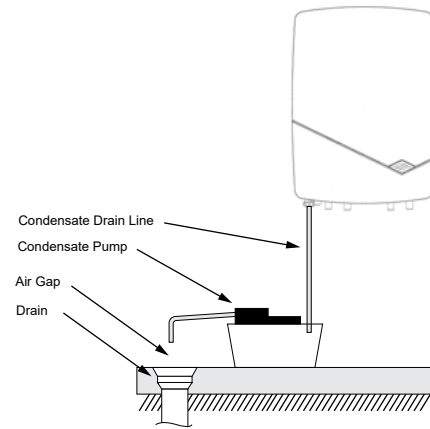

Figure 5.5: Condensate To a Condensate Pump
4. To a condensate pump (Figure 5.5)